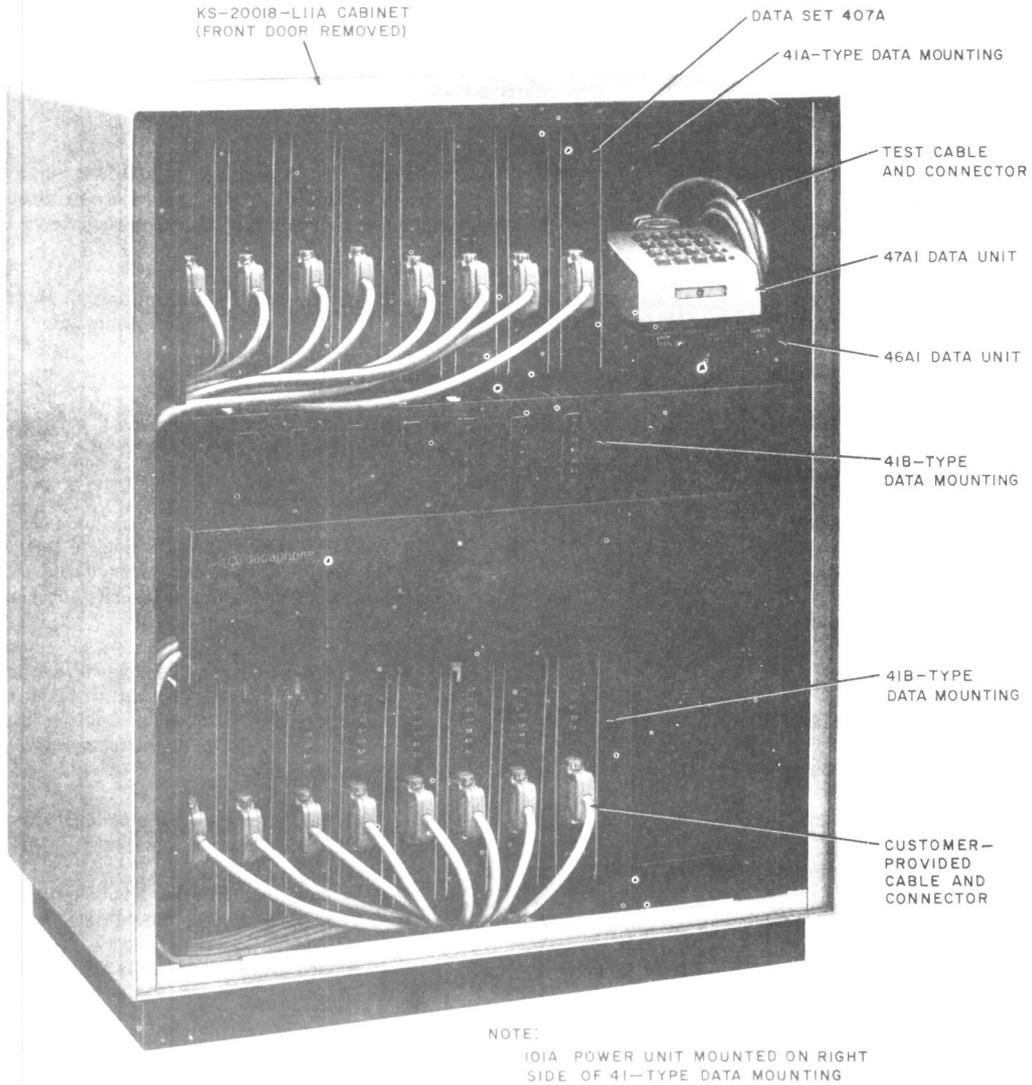

Fig. 1—407A-Type Multiple Data Station Mounted in a KS-20018-L11A Cabinet—Typical
1.03 A 407A-type multiple data station, shown in Fig. 1, consists of the following units:
- Data set (DS) 407A
1.04 A 407B-type multiple data station is similar to the 407A-type shown in Fig. 1, but uses DS 407Bs, and only 41A2 and 41B2 data mountings.
1.09 The 46A1 data unit (Fig. 1) provided with the 41A-type data mounting enables local or remote testing of any data set 407-type in the cabinet.
2.09 The 46A1 data unit (Fig. 1) is approximately 5.2 inches wide, 2 inches high, 4.2 inches deep, and weighs 1.5 pounds. This data unit
2.10 The 47A1 data unit (Fig. 1) is approximately 4.5 inches wide, 2.5 inches high, 4.5 inches deep, and weighs 1.5 pounds. This data unit is a modified 16-button Touch-Tone dial. The data unit contains LEDs across the top and down the right side of the dial.